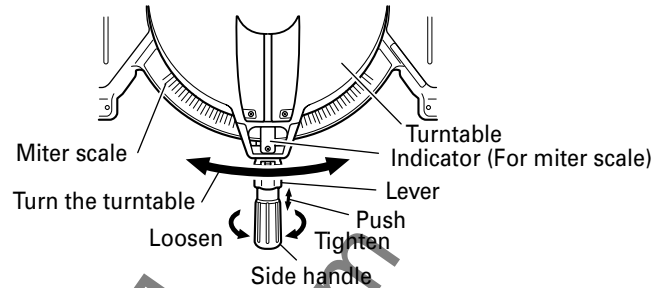

Fig. 22
- (1) Loosen the side handle and push the lever for angle stoppers. Then, adjust the turntable until the indicator aligns with desired setting on the miter scale (Fig. 22).
- (2) Re-tighten the side handle to secure the turntable in the desired position.